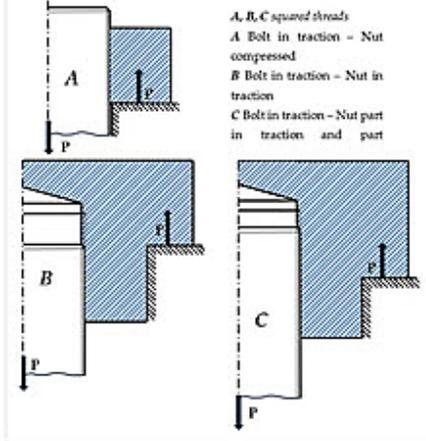

Figure 1. Threaded connection redrawn from the original paper of Maduschka [4].
In a threaded joint design, it is necessary to consider the non-uniform load distribution among the engaged threads; the most popular theoretical approaches are those of Maduschka [4], Sopwith [5], and Yamamoto [6]. In the last decades, the same problem has predominantly been solved by using finite element (FE) models [7]. Another approach is that of Zhang et al. [8], which addressed the problem of a compression connection and validated the results using a finite element method. The methods of Sopwith, Yamamoto, and Zhang are based on the integration of differential equations defined along the helix of the threads. In contrast, Maduschka’s method used in his paper of 1936 for a squared threaded connection, a succession of axisymmetric collars attached to the body of the screw and the nut as shown in Figure 1, extracted from the original paper where three cases of engagement are shown. The assembly shown regards squared threads, but in the following of the original paper,